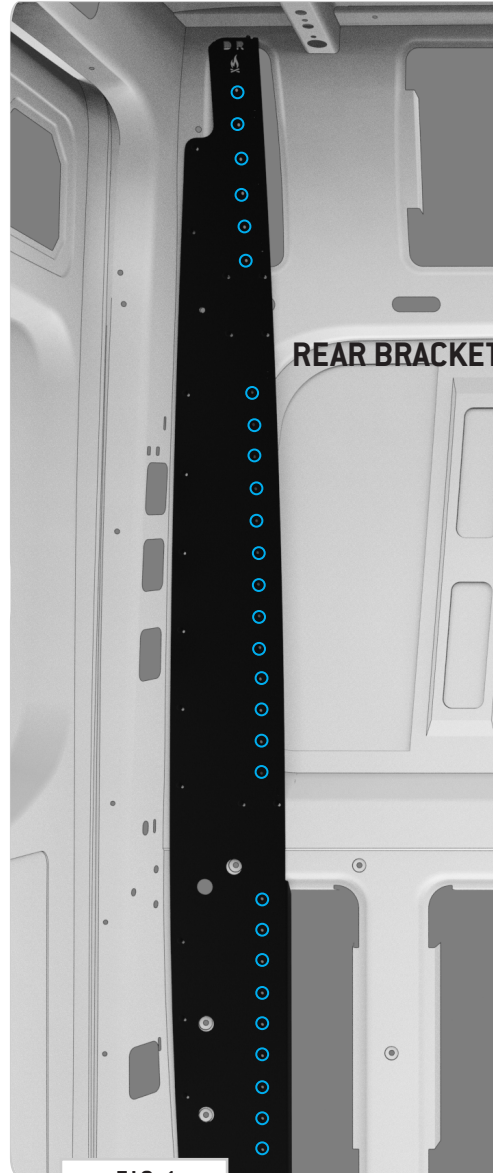

FIG 1
**1.1 Identify Mounting Locations:** Find the pre-threaded holes highlighted blue in FIG 1 and 2 that you'll use to install your L-Track Kit to FVC Sprinter Bed Brackets.